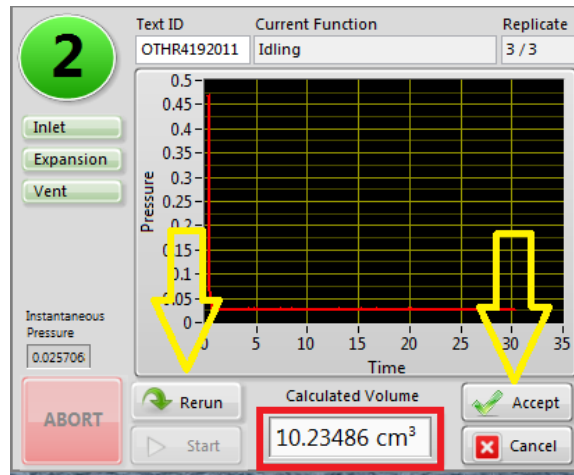

Figure 11. Calculate Volume Interface.
4.	Once the measurement is complete the Calculated Volume interface will appear. If this volume is acceptable click Accept ; otherwise the sample can be reanalyzed by choosing Rerun (Figure 11).